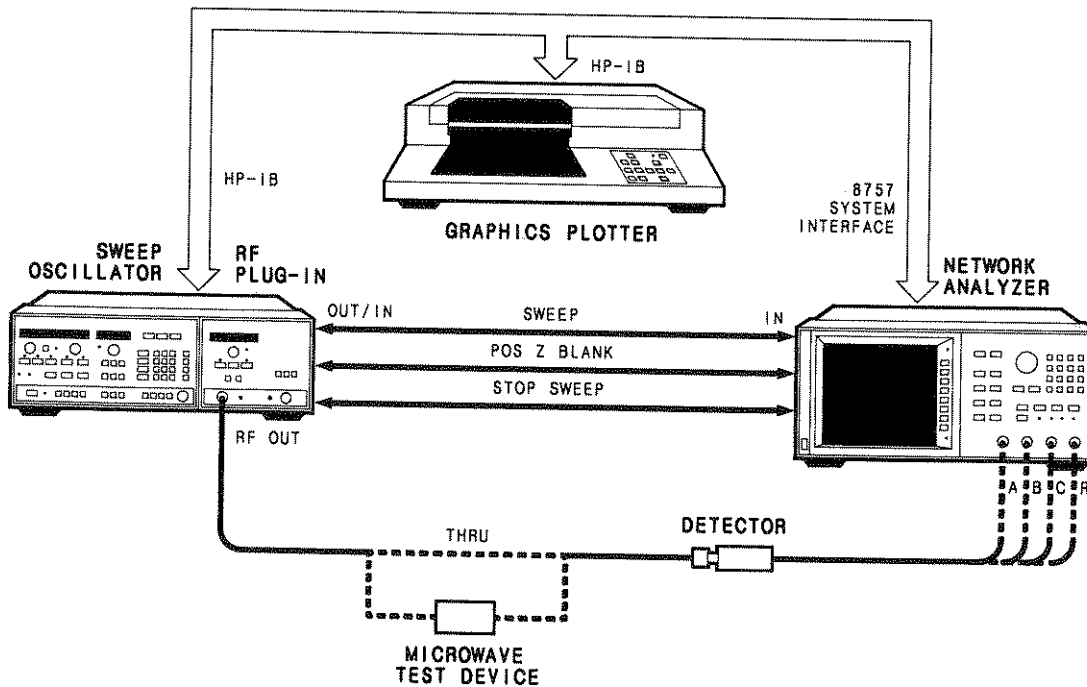

Figure 3-32. Equipment Setup for Operator's Check
2. Set up the equipment as illustrated in Figure 3-32, with the detector connected to the A input of the HP 8757A. Connect the detector input to the RF output of the sweep oscillator for a "thru" (0 dB insertion loss) connection. Turn on the instruments and allow 30 minutes warm-up time.